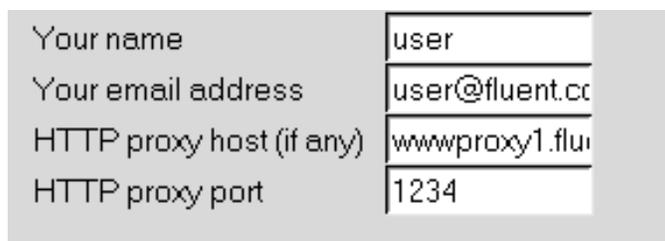

Figure 6.3.14: The Error reporting Section of the Preferences Panel
-  **Error reporting** allows you to pre-fill the Error report panel with the following information necessary to email a report: **Your name**, **Your email address**, **HTTP proxy host (if any)**, and **HTTP proxy port**, as shown in Figure 6.3.14.